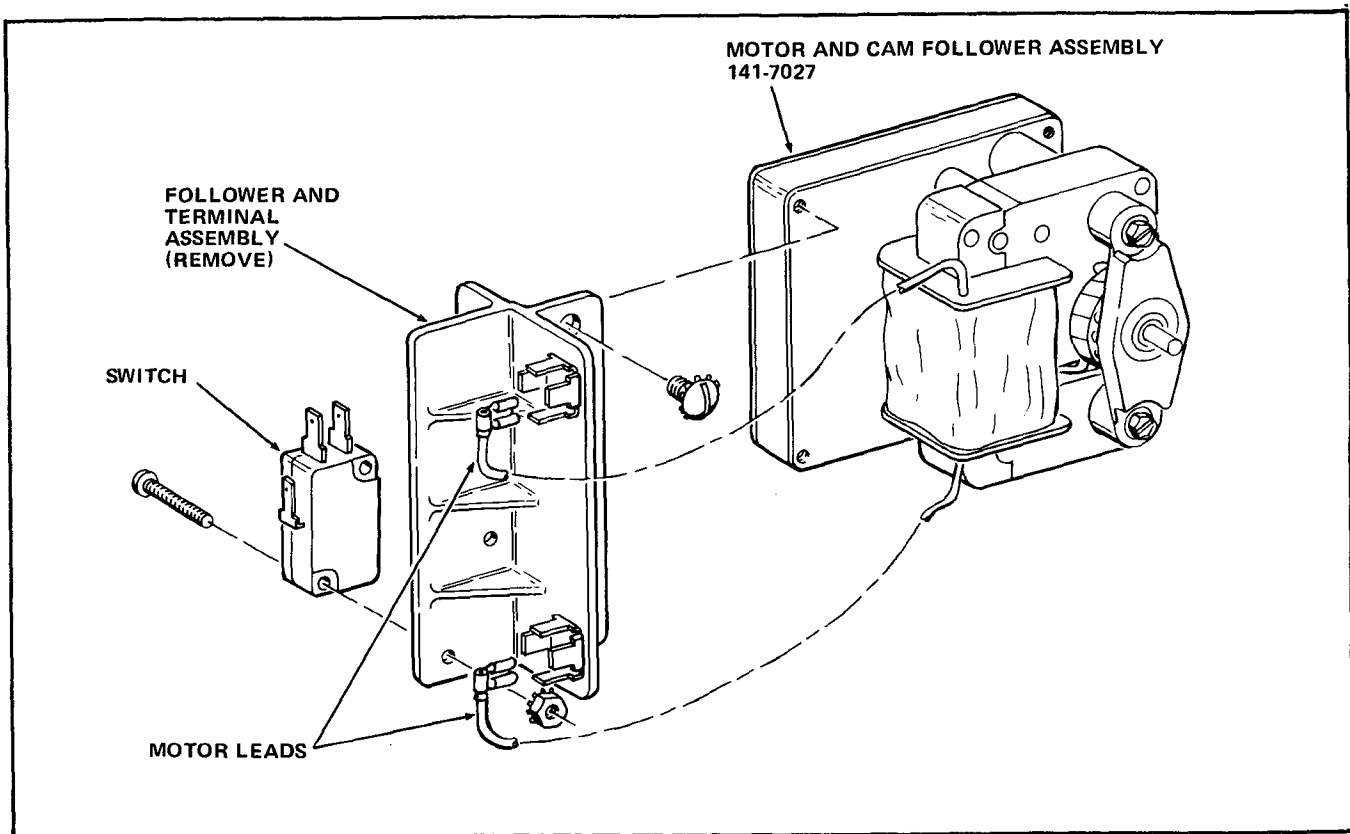

FIGURE 3
1. Remove the Switch, two attaching Screws and two Nuts from the Motor and Cam Follower Assembly, part number 141-7027, included in the kit. See Figure 3. Be sure to retain the Switch and attaching hardware.
2. Disconnect the Flag Terminals of the two motor lead wires from the terminals of the Follower and Terminal Assembly, as shown in Figure 3.
3. Remove two attaching Screws and the Follower and Terminal Assembly from the Motor and Cam Follower Assembly. See Figure 3.